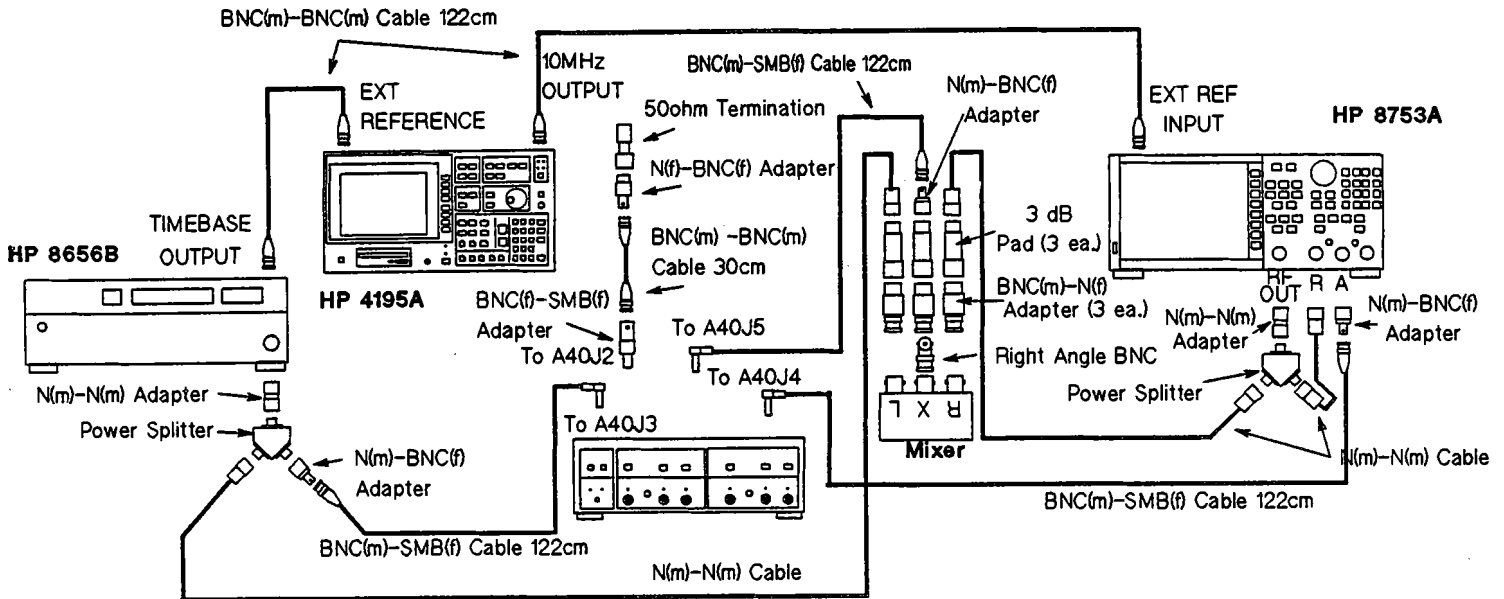
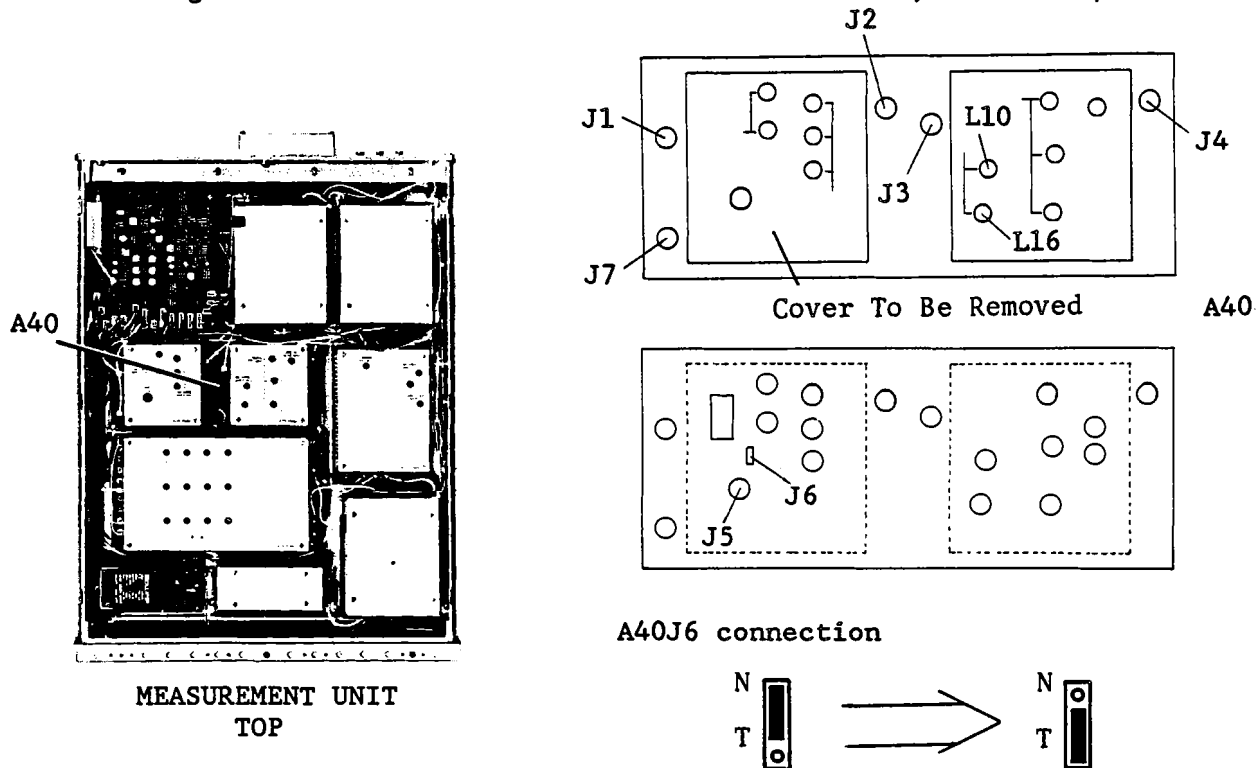

Figure 3-110. Source Third IF Converter 86.6 MHz BPF Adjustment Setup
Figure 3-111. Source Third IF Converter 86.6 MHz BPF Adjustment Locations
1. Remove one of the shield covers (PN 04195-00654) from the A40 board, and set jumper A40J6 setting from "N" to the "T" position. Refer to Figure 3-111.
2. Connect the equipment as shown in Figure 3-110. See Figure 3-111 for A40J2, A40J3, A40J4 and A40J5 locations.